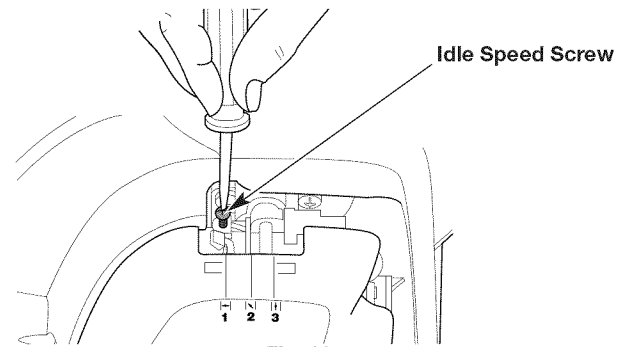

Fig. 22
2. Release the throttle control and let the engine idle. If the engine stops, use a small Phillips screwdriver to turn the idle speed screw clockwise, 1/8 of a turn at a time (as needed) until the engine idles smoothly (Fig. 22).
3. If the engine is idling too quickly, turn the idle speed screw counterclockwise, 1/8 of a turn at a time (as needed) to reduce the idle speed (Fig. 22).